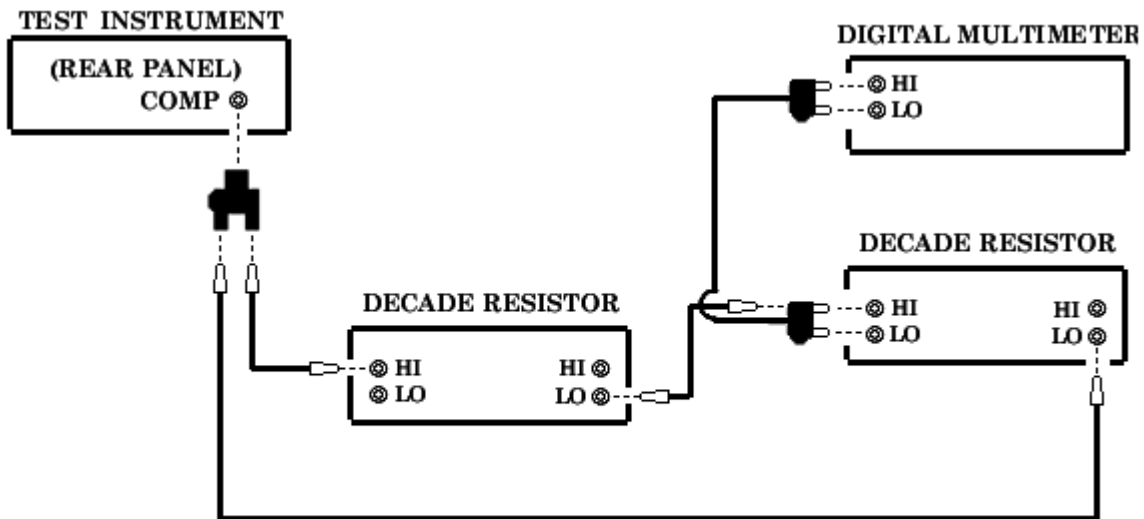

Figure 3. Localizer DDM - equipment setup.
- (1) Connect digital multimeter to TI **COMP** output (rear panel).
- (2) Press **FUNCTION/CONTROL STD** pushbutton and enter a frequency of 108.10 MHz into TI.
- (3) Press **TONE SELECT 90 Hz** pushbutton (all other **TONE SELECT** pushbuttons off). Record digital multimeter indication
- (4) Press **TONE SELECT 150 Hz** pushbutton (all other **TONE SELECT** pushbuttons off). Record digital multimeter indication.
- (5) Divide the measured value of one tone by the other to determine the voltage ratio. If calculated ratio is not between 0.99950 and 1.00050, perform **b** (1) through (3) below.
(6) Press **TONE SELECT 1020 Hz** pushbutton (all other **TONE SELECT** pushbuttons off). If digital multimeter does not indicate between 1.4985 and 1.5015 V rms, perform **b** (4) below.
(7) Connect digital multimeter to TI **DEMOD** output (rear panel). Repeat (3) through (5) above. Calculated ratio will be between 0.99720 and 1.00280.
(8) Connect equipment as shown in figure 3.
(9) Set each decade resistor to 47 kΩ.
(10) Press **TONE SELECT 90 Hz** pushbutton (all other **TONE SELECT** pushbuttons off) and enter a **DDM** setting of 0.046 into TI. Record digital multimeter indication.
(11) Press **TONE SELECT 150 Hz** pushbuttons (all other pushbuttons off). Record digital multimeter indication.